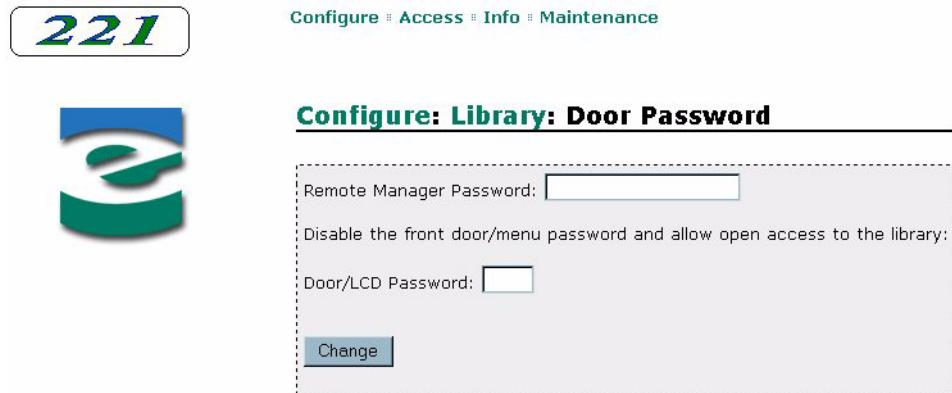

Figure 6-17 Remote management utility – Door/LCD Password Configuration (Disable) page
3. Click on Configure library Door/LCD security. A page similar to Figure 6-17 appears.